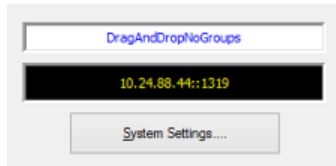

FIG. 133 Workspace Communication Settings dialog indicating the selected Master connection
- Click **OK** to close the *Communications Settings* dialog and return to the *Workspace Communication Settings* dialog, with the selected communication configuration displayed (FIG. 133).